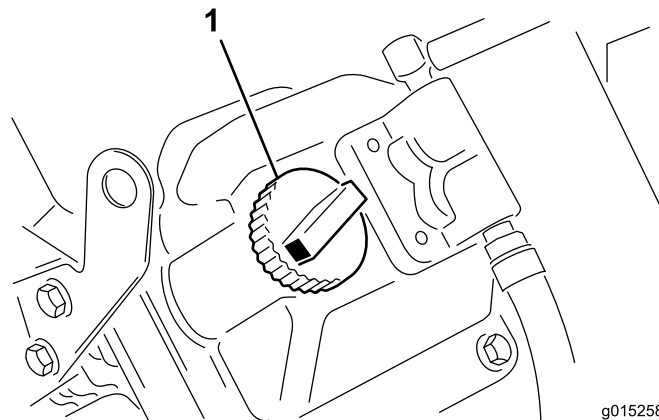

Figure 8
5. If the oil level is below the Full mark, remove the filler tube cap and add oil until the level reaches the Full mark on the dipstick (Figure 8). **Do not** overfill.